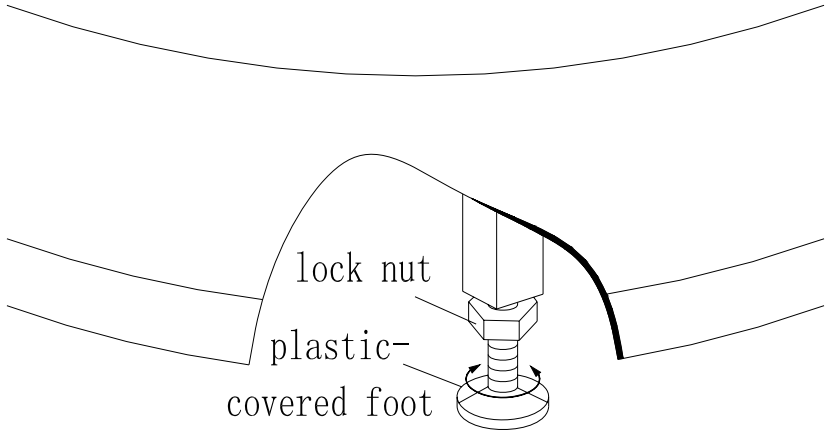

Fig. 2
1、 Adjust plastic-covered foot -----move the basin to a suitable position, adjust the plastic-covered foot at the bottom, make it contact the ground. As the fig.2.